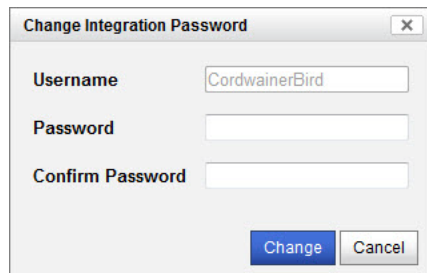

FIG. 20 Change Password window
2. In the appropriate user entry, select *Change Password* to open the *Change Integration Password* window (FIG. 20).